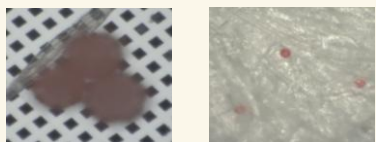

Fig. 2. uRaman images of PE red on silicon (left) and cellulose (right) filter. (Some PE particles go under the cellulose fiber)
For small MPs, these effects are amplified. Thin particles transmit more background signal, pixels covering particles at or below pixel size are spectrally mixed, and edge scattering has a greater influence (Fig. 1, Fig. 2).
1. Make an informed decision based on the pixel limit, particle size (Fig. 1 & 6), and the surroundings, e.g., filter influence (Fig. 2).